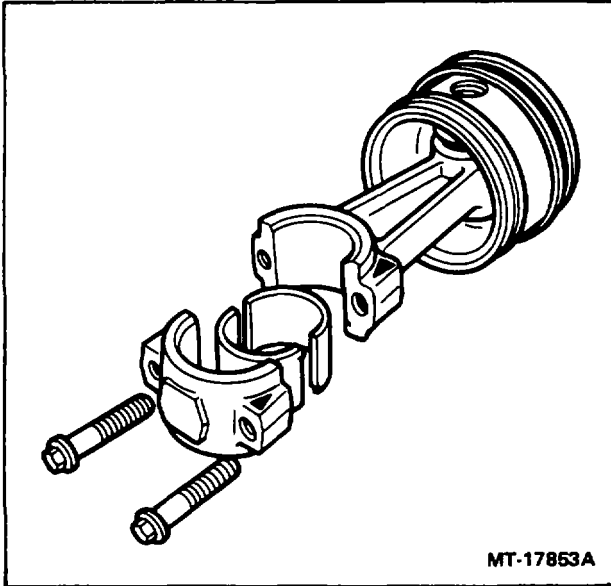

Figure 11 - Piston and Connecting Rod Assembly
- Turn compressor assembly over and position connecting rod on crankshaft journal making sure that the inserts are in place. Install caps and inserts matching arrows on bearing cap and rod as shown in Figures 11 and 12. Tighten connecting rod bolts according to listing In TORQUE CHART in this Section. Use a 12 point 5/16 in. socket on connecting rod bolts.